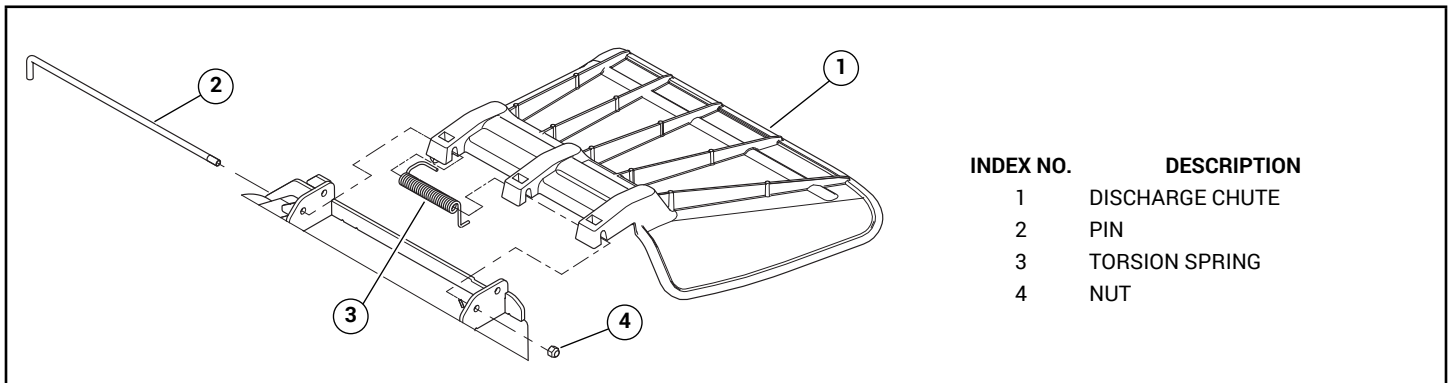

FIG. 9
- If the discharge chute was removed - Assemble the torsion spring, the original discharge chute, and pin to the deck. Make sure that the torsion spring is assembled as shown so that it applies pressure to the discharge chute and keeps it in the down position. Fig. 9